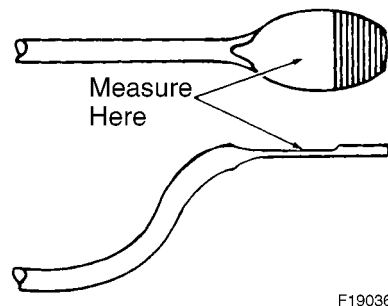

Figure 5-25. Lead Wire Measurement
- D. Bar the engine over one complete revolution to compress the lead wire. Remove the wire from the engine and measure the inboard portion of both compressed ends of the wire, Figure 5-25.